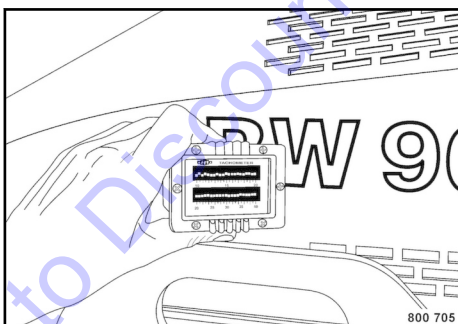

Fig. 106
2. Measure the speed of the exciter shaft by letting the measuring instrument rest on your thumb ↪ Fig. 106.